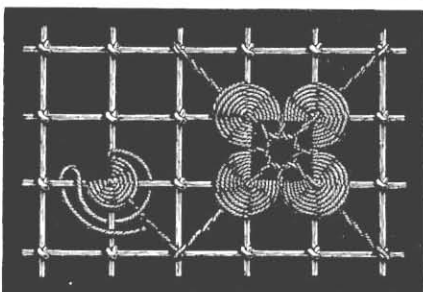
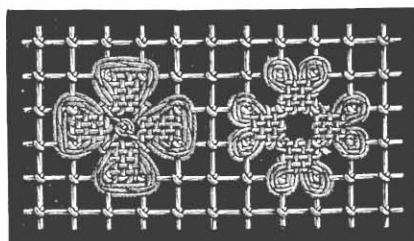

Fig. 37. Star with corners in darning stitch.
Fig. 39. Linen stitch framed with darning stitches.
**Star with corners in darning stitch** (fig. 37). — This figure shews us a pretty subject worked in darning stitch made over one laid thread and over four bars of the net. The left part of the figure
**Linen stitch framed with darning stitches** (fig. 39). — In framing linen stitches at the corners with darning stitches they must be set much less closely than in figure 37; you may also, instead of stopping the stitches at each corner, continue them round